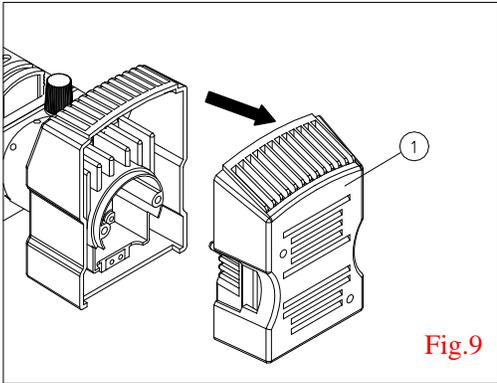
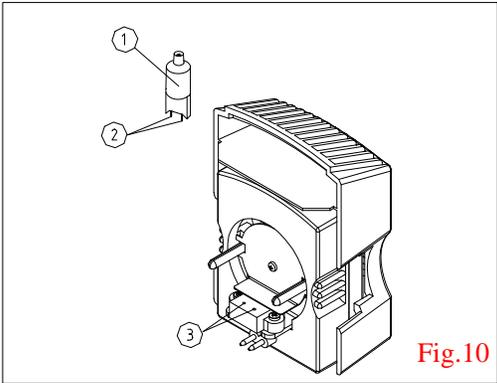

Fig.9
Fig.10
2.10 Installation (or replacement) of the halogen lamp (Fig.9 – Fig.10)
- 3) Hold the half of lamp housing ① and pull as shown in Fig.9.
- 4) Pull the dead bulb straight out and insert the new bulb into the jack ③, as shown in Fig. 10.
- 5) Push the half lamp housing back ①. Make sure the pins and jacks are aligned.